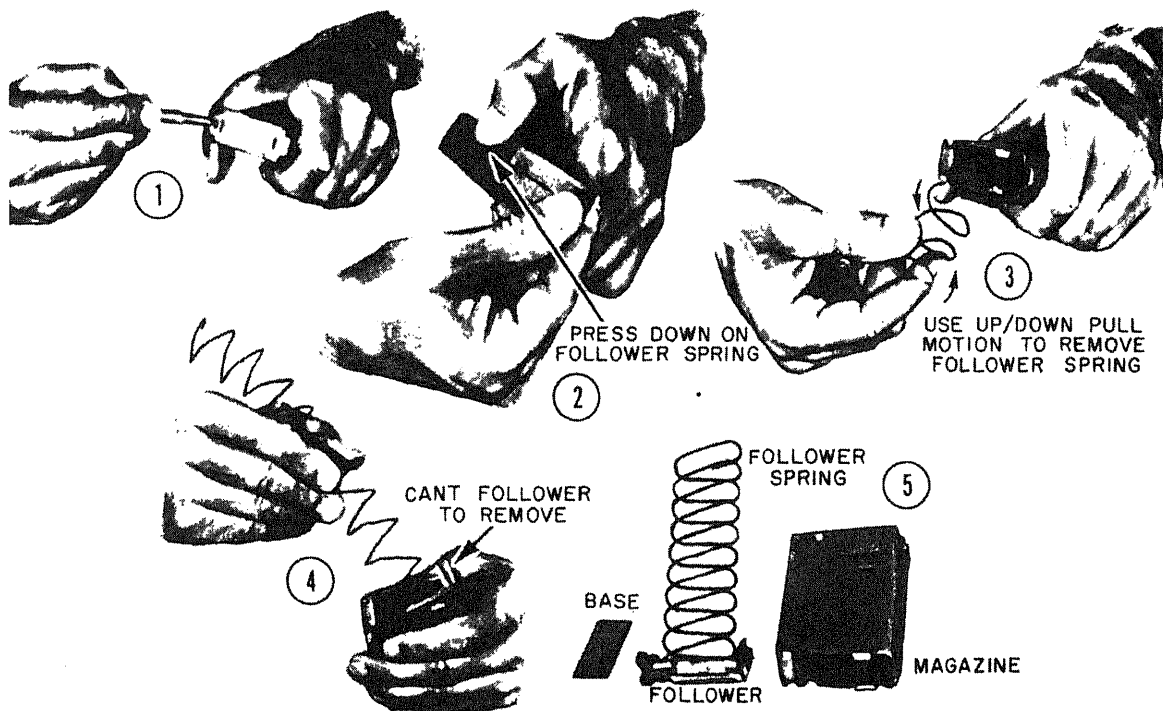

Figure 4-28.—Disassembly of the 20-round magazine.
5. **AMMUNITION MAGAZINES.** After removing all cartridges from the magazine, depress the spring steel lock band on the bottom of the magazine, using the nose of a cartridge (view 1, fig. 4-28). Slide the base until it is free of the tabs, and remove it from the magazine body (view 2, fig. 4-28). Remove the magazine spring and follower (view 3, fig. 4-28), but do not remove the follower from the spring (views 4 and 5, fig.